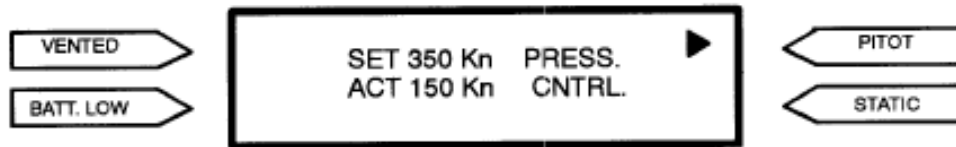

Figure 18 System Pressurisation
- E. As soon as the pressurization starts, the VENTED flag extinguishes. During this time, the display not only shows the Set Point value, but also the Actual value (*Figure 18*).